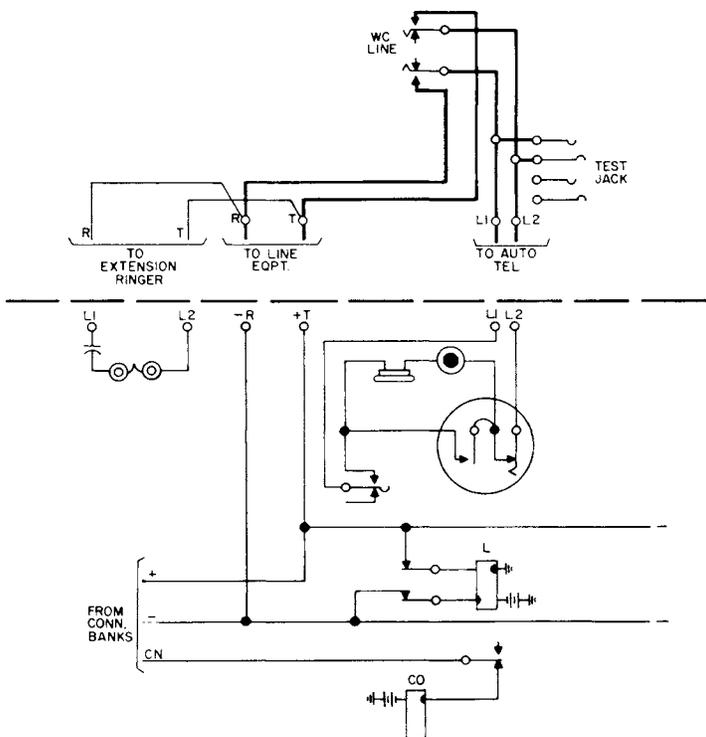

Figure 7. Connection to line equipment.
5.1 Incoming Calls - Via Connector Terminals (Figure 7)